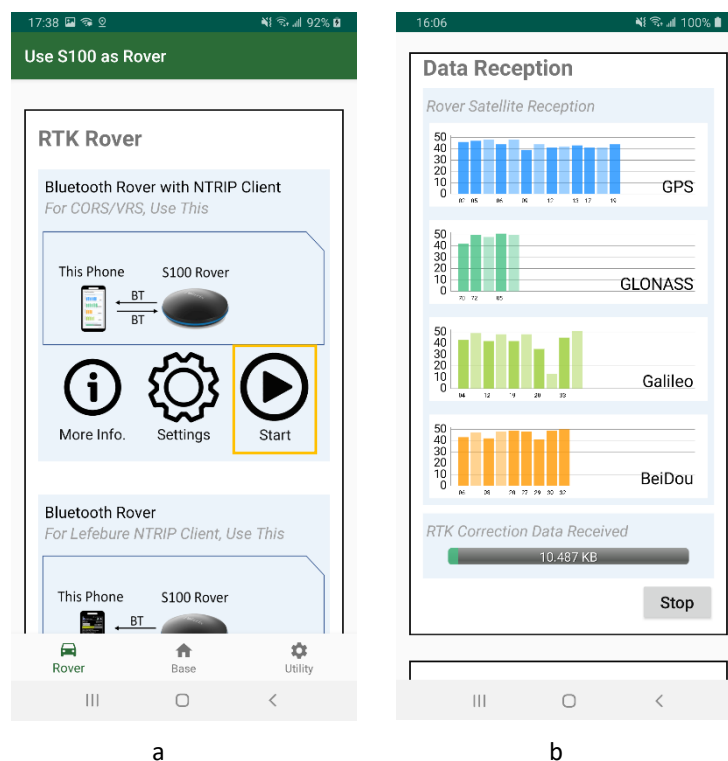

Figure 4-3
- Click Start of “Bluetooth Rover with NTRIP Client” and then app starts receiving correction data. See Figure 4-3 a b.